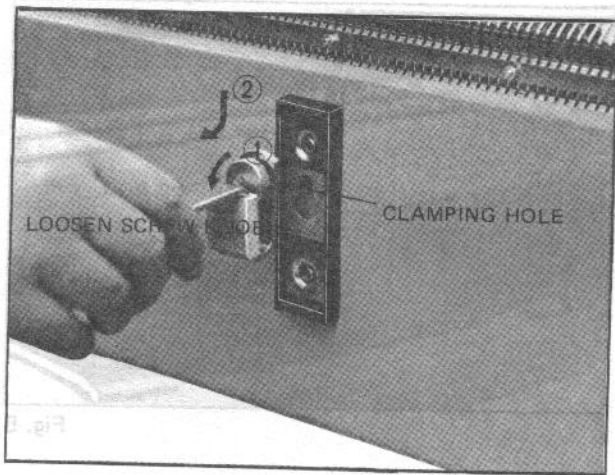

Fig. 9
▶ Detach the clamps from the clamping hole on the bottom of the machine in order (1-2) as shown in Fig. 9.
- ▶ Detach the clamps from the clamping hole on the bottom of the machine in order (1-2) as shown in Fig. 9.